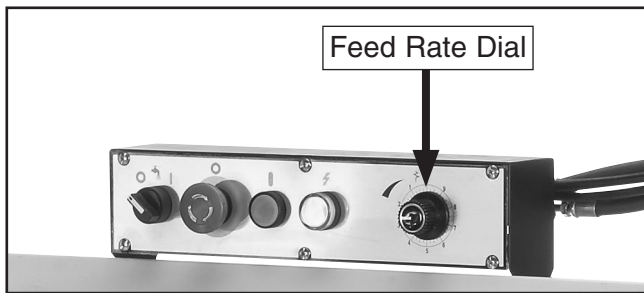

Figure 31. Location of feed rate dial.
2. Set Feed Rate Dial shown in **Figure 31** to desired feed rate—"0" (slowest), "9" (fastest).
6. Open feed rate dial (see **Figure 31**), then slowly rotate dial clockwise to a slow feed rate until saw begins to cut workpiece.